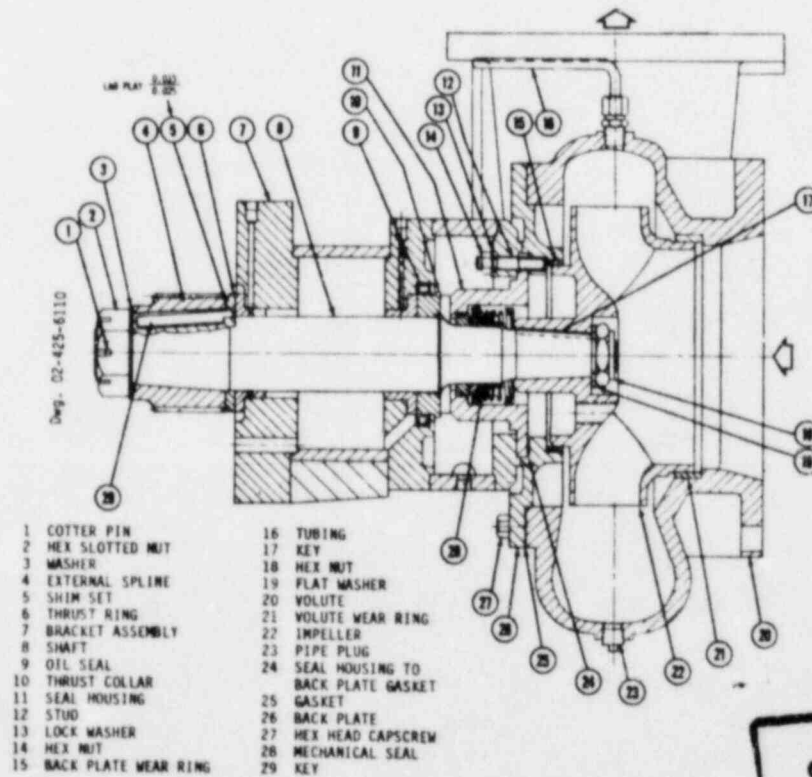

Figure 6-J-1. Water Pump Assembly
WATER PUMP (See Figure 6-J-1).
The engine driven water pump is of the centrifugal type in which a rotating impeller (22) imparts a rotating motion to the fluid, and discharges it into the circulating system. The pump is mounted on the engine gearcase cover by means of an adapter (7 and Fig. 6-J-2). The pump is driven through a gear carrier assembly (Fig. 6-J-3). An external spline (4) engages the internal splines on the gear carrier coupling (see Fig. 6-J-3). The pump is very reliable, and should require little maintenance. Certain parts are subject to wear, however, and may require replacement sometime during the life of the pump. These items include the mechanical seal (28), the volute wear ring (21), the back plate wear ring (15), the shaft bushings (Fig. 6-J-2), the thrust ring (6), the thrust collar (10), and the oil seal (9). The need for replacement must be determined by periodic inspection of the pump, and by symptomatic evidence obtained from these routine inspections, and from performance figures obtained from operating logs. Table 6-J-1 outlines the common symptoms, their causes and the appropriate repair procedures.